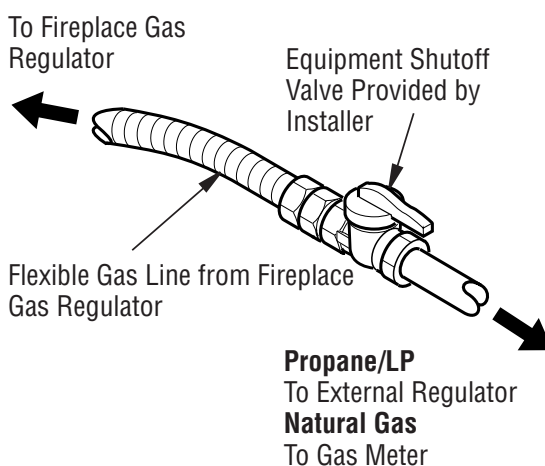

Figure 21 - Attaching Flexible Gas Lines Together
NOTICE: Most building codes do not permit concealed gas connections. A flexible gas line is provided to allow accessibility from the fireplace (see *Figure 21*). The flexible gas supply line connection to the equipment shutoff valve should be accessible.
5. Attach the flexible gas line to gas supply (see *Figure 21*). Check tightness of flexible gas line attached to gas regulator of fireplace (see *Figure 21*).